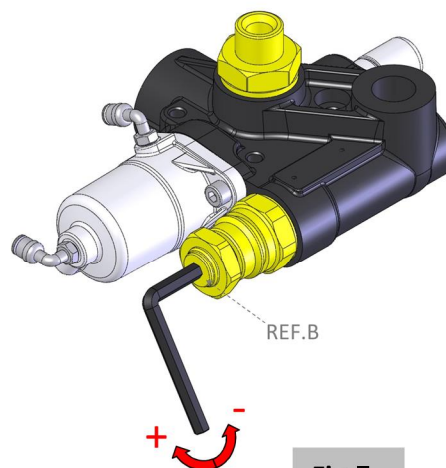

Fig.7
- 2.3. **Screwing** the part. B (see ref.B on Fig.7) the pressure increases.
Unscrewing the part. B (see ref.B on Fig.7) the pressure decreases.